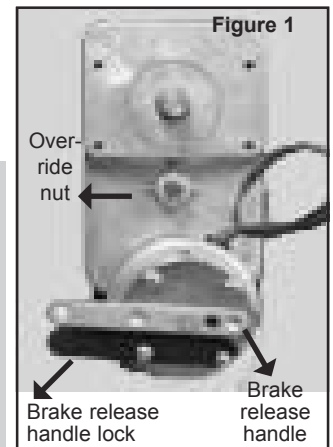

Figure 1
9. Depress the release handle lock and rotate the brake release handle counter-clockwise approximately 10 degrees. See fig.1.
10. Rotate the override nut located on the underside of the jack clockwise (looking from bottom or underneath). See figure 1.